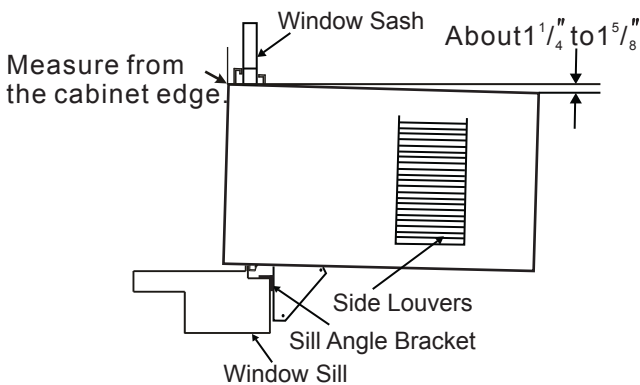

Fig.14
**NOTE:** Check that air conditioner is tilted back about  $1\frac{1}{4}$ " to  $1\frac{5}{8}$ " (tilted about  $3^\circ$  to  $4^\circ$  downward to the outside). After proper installation, condensate should not drain from the overflow drain hole during normal use,correct the slope otherwise (Fig .14).